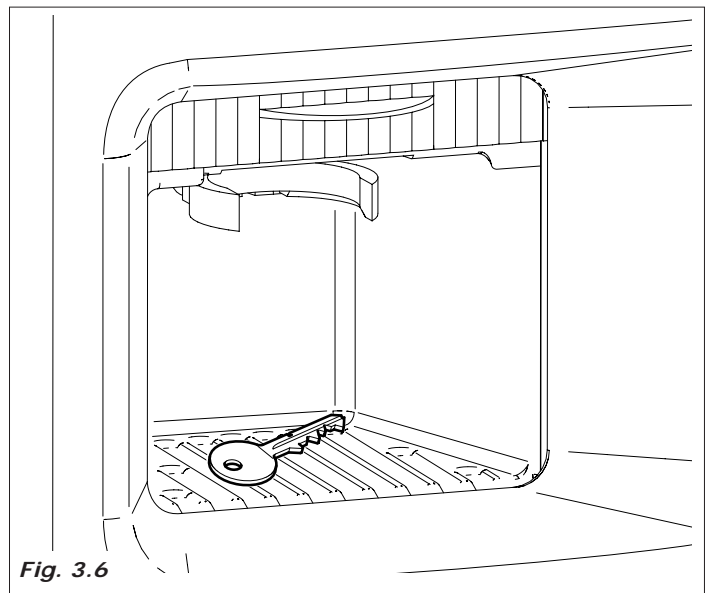

Fig. 3.6
- remove the key from the drink dispensing chamber (Fig.3.6)